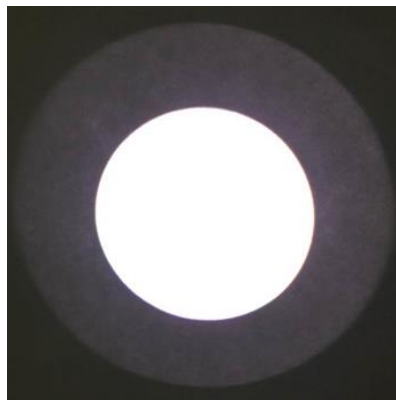

Figure 47: Uniform output of a properly aligned Xe lamp.
13. Move the lever so that it rotates about the cylindrical condenser lens assembly until the light on the backdrop becomes uniform and circular as seen in Figure 47.